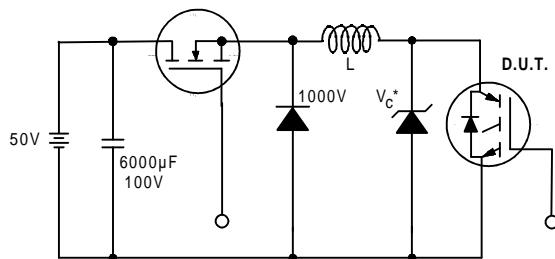

Figure 19. Clamped Inductive Load Test Circuit
- ②  $V_{CC}=80\%$  ( $V_{CES}$ ),  $V_{GE}=20V$ ,  $L=10\mu H$ ,  $R_G = 50W$  (figure 19)
- ③ Pulse width  $\leq 80\mu s$ ; duty factor  $\leq 0.1\%$ .
- ④ Pulse width  $5.0\mu s$ , single shot.